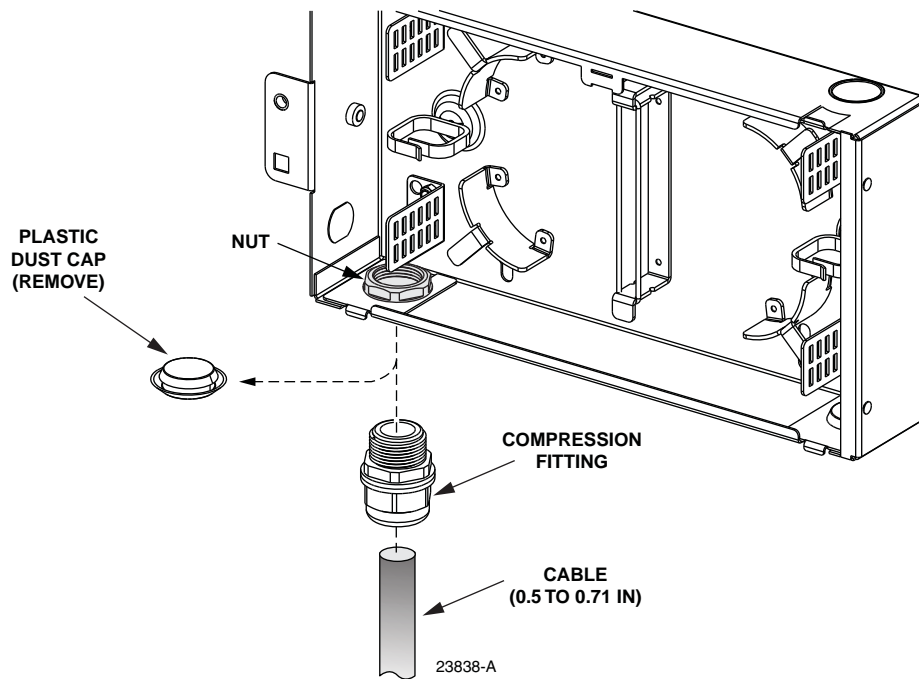

Figure 5. Compression Fitting Installation
3. Install the compression fitting in the cabinet as shown in Figure 5.